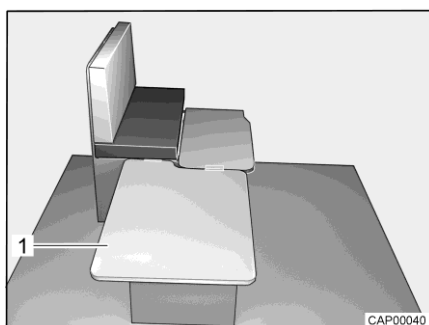

Fig. 49 During conversion
- Hook removable board (Fig. 49,1) in on the side of the bench and place it on the table.